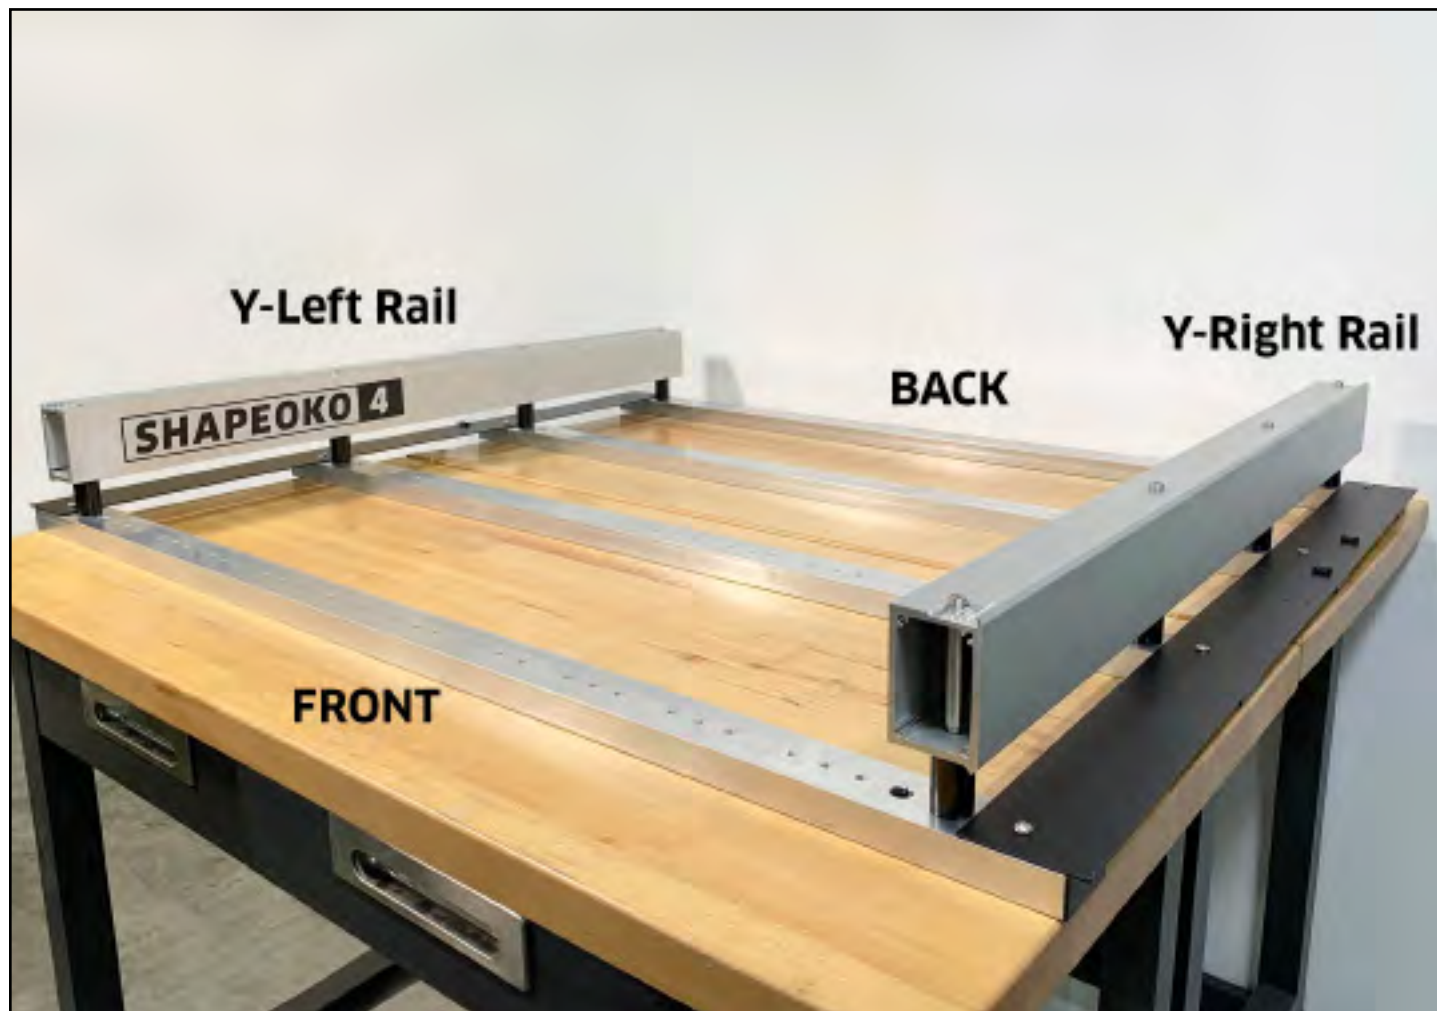

Figure 2-2
1. Position the Y-Left extrusion rail on the four standoffs on the left side of the baseframe. See **Fig. 2-2**.
2. Use a 5mm hex key and four (4) M6×85mm shoulder bolts to loosely attach the Y-Left rail to the standoffs. See **Fig. 2-2**.
1. Position the Y-Right extrusion rail on the four standoffs on the right side of the baseframe. See **Fig. 2-2**.
2. Use a 5mm hex key and four (4) M6×85mm shoulder bolts to loosely attach the Y-Right rail to the standoffs. See **Fig. 2-2**.